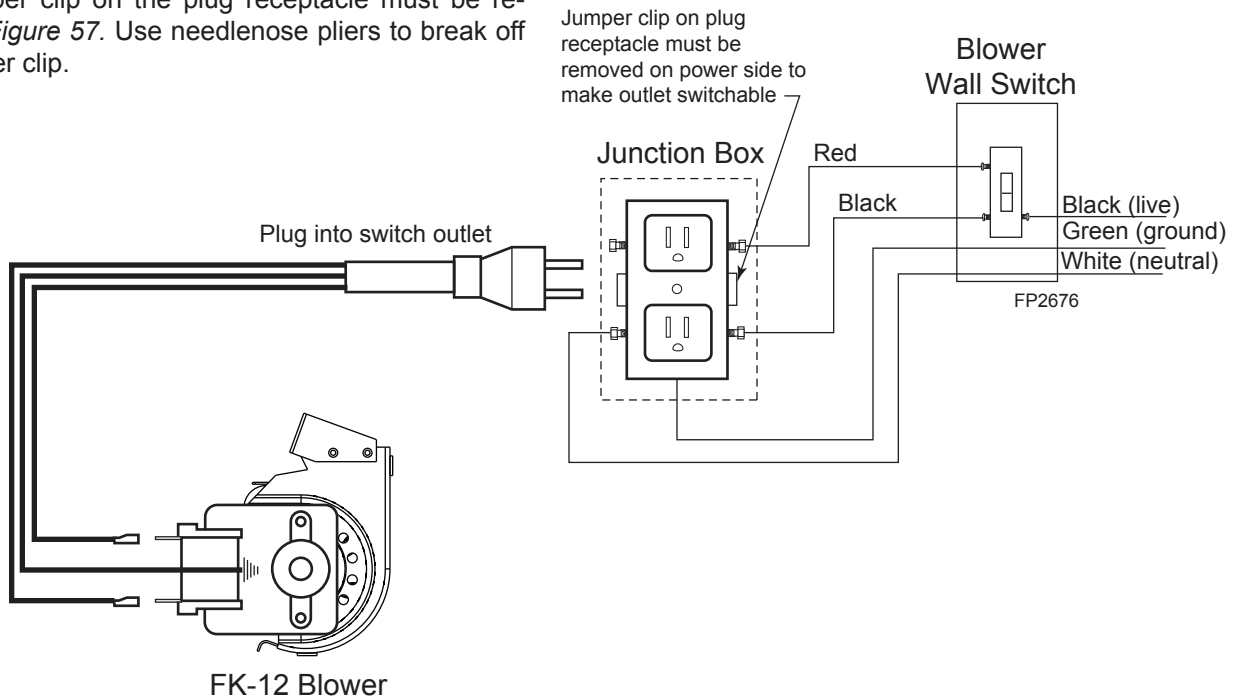

Figure 57 - FK-12 Blower wiring Diagram
3. The jumper clip on the plug receptacle must be removed. *Figure 57*. Use needle-nose pliers to break off the jumper clip.